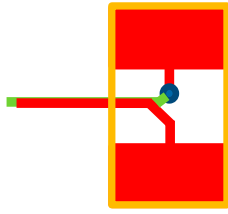

FIGURE 147. RECOMMENDED LAYOUT PATTERN FOR CURRENT-SENSE TRACES REGULATOR
12. The current-sensing traces must be laid out very carefully since they carry tiny signals with only tens of mV. For the current-sensing traces close to the power sense resistor (R_{SEN_x}), the layout pattern shown in Figure 147 is recommended. Assuming the R_{SEN_x} is placed on the top layer (red), route one current-sense connection from the middle of one R_{SEN_x} pad in the top layer under the resistor (red trace). For the other current-sensing trace (green trace), from the middle of the other pad on R_{SEN_x} top layer, after a short distance, via down to the second layer, and route this trace right under the top layer current-sense trace.
- Current-sensing resistors, sometimes called "shunts", require special considerations during their layout. These devices must be connected Kelvin style as shown in Figure 147 on page 119. The sensed voltage must be sensed exactly at the shunt terminals. A common problem encountered routing shunts, is that if one side of the shunt is connected to a common terminal, such as GND or BAT12, a layout tool will not flag an error if this connection is not geometrically correct! Verify that the shunts are Kelvin connected. Specific to the ISL78226, each of the six phase resistors measure current into or out of BAT12, and the flyback shunt measures current into ground. Voltages measured on shunts are always necessarily small. They are also the most common victim seriously enough affected by a layout error to render the layout inoperable. Do not route shunt traces near aggressors such as phase nodes. Shunt routing and the controller IC itself should be placed favoring the lower noise BAT12 side of the board. current-sense trace pairs should be placed side by side or one on top of the other as shown in Figure 147.